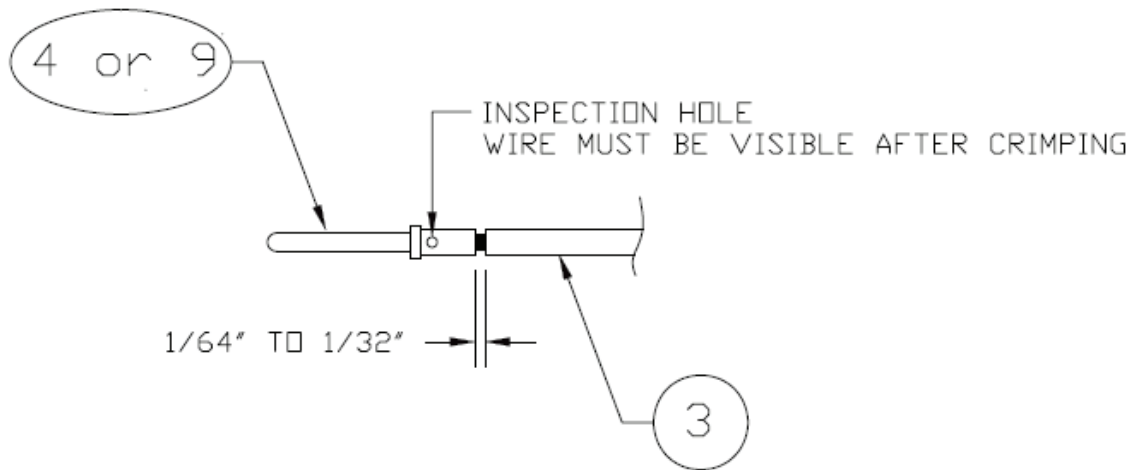

Figure B-3 Insulation/Contact Clearance
For the following steps please refer to Figures B-3 & B-4.
1. Strip back approximately 0.17 inches of insulation from each wire of the four conductor wire harness (item 3) and crimp either a pin (item 4) or a socket (item 9) to each conductor. It is the responsibility of the installer to determine the proper length of insulation to be removed. Wire must be visible in the inspection hole after crimping and the insulation must be $1/64 - 1/32$ inches from the end of the contact as shown in Figure B-3.